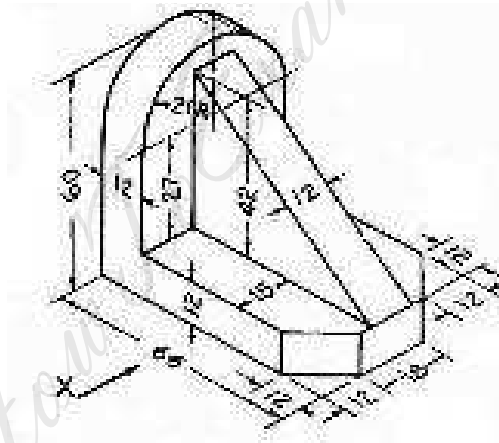

Figure 8
8. Draw the elevation, plan and right side view of the part shown in the figure 8. (all dimensions are in mm) [16]